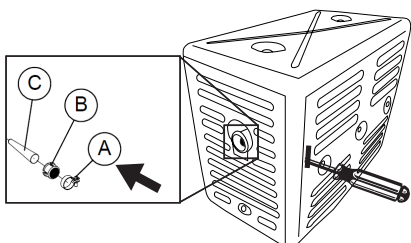

Figure 16: Remove Screw Holding Spark Arrestor
3. Slide in screwdriver into side slot and remove screw A, holding on spark arrestor. Pull out B&C (see Figure 16).